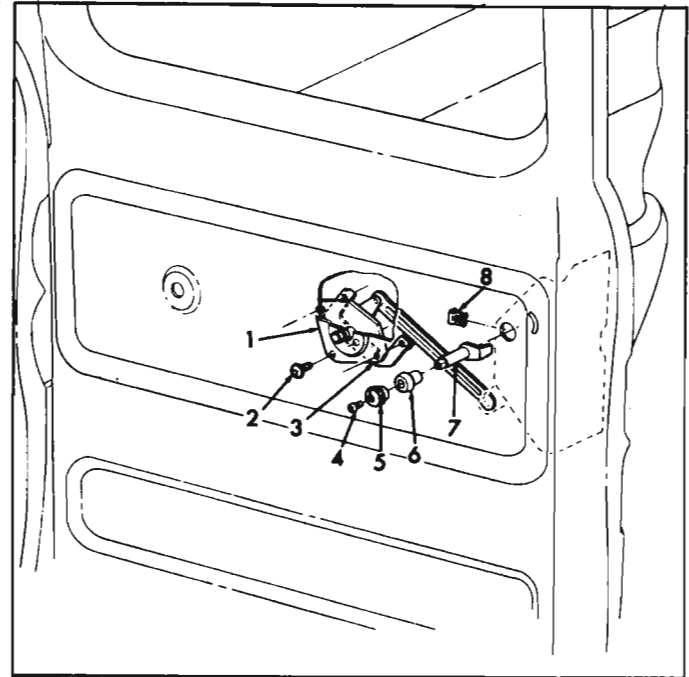

Fig. 10-72a—Side Intermediate Door Lock Operating Lever
10-64a) while holding plate and nut assembly (fig. 10-72a).
Removal and Installation (Refer to Figure 10-72a)
3. Remove escutcheon retainer (8, fig. 10-72a) and remove escutcheon and lock operating lever.